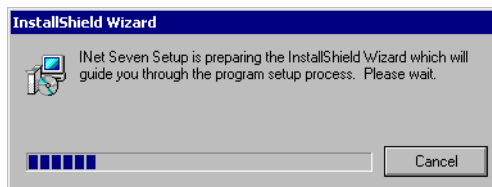

Figure 2-1. Preparing for the Install
4. Setup begins installing temporary files (see Figure 2-1). These files are automatically removed at the end of the installation.